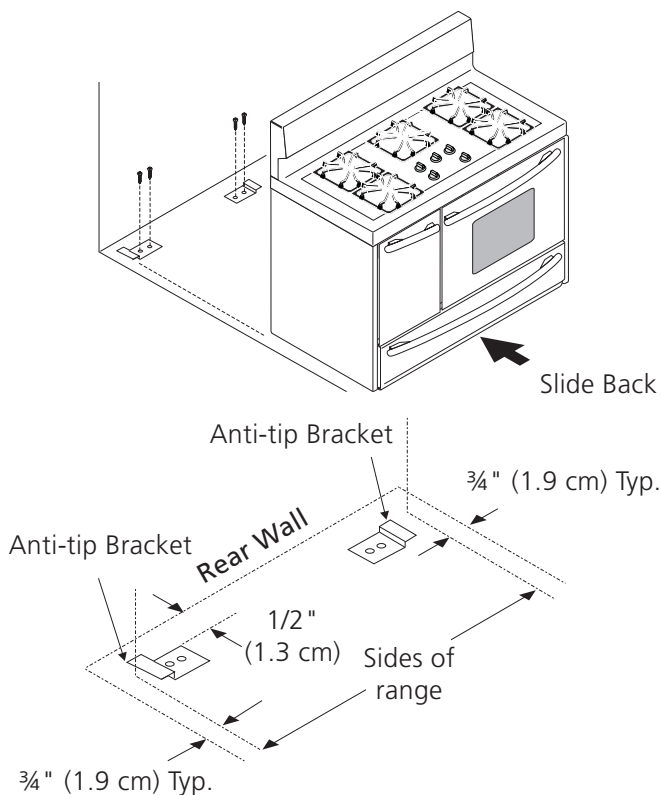

Figure 13
1. Unfold paper template and place it flat on the floor with the back and side edges positioned exactly where the back and sides of range will be located when installed. (Use the diagram in figure 13 to locate brackets if template is not available.)
3. Remove template and place brackets on floor with turned up flanges to the outside (see figure 13). Line up holes in brackets with marks on floor and attach with 4 screws provided (2 screws per bracket). Brackets must be secured to solid floor. If attaching to concrete floor, first drill 3/16" (4.8 mm) dia. pilot holes using a masonry drill bit.